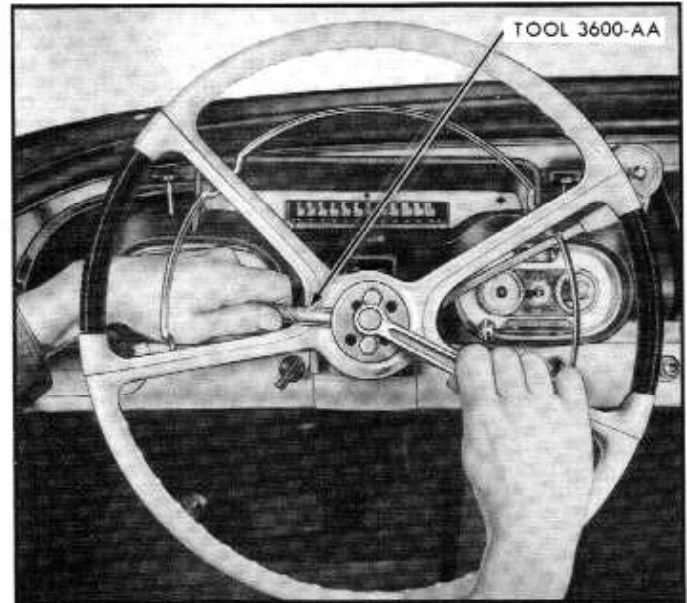

Fig. 11-17—Removing Steering Wheel
4. Install Tool 3600-AA and remove steering wheel. See figure 11-17.